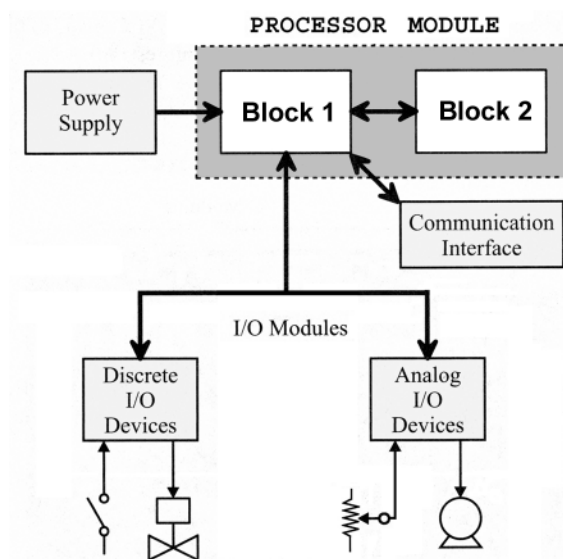

Figure 2-11 Processor module for question 42.
42. For the processor module shown in Figure 2-11,